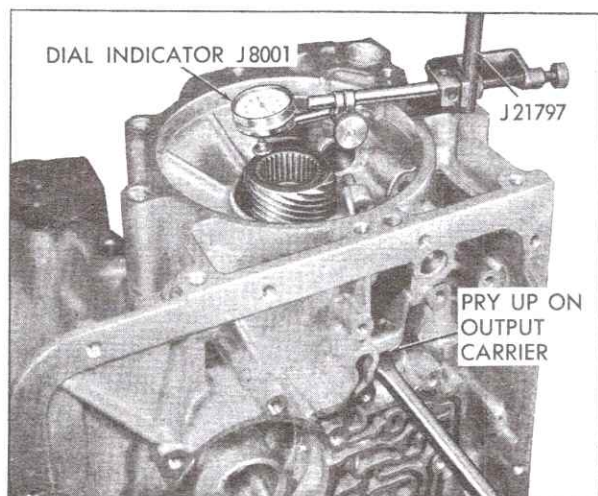

Fig. 7-159 Checking Rear Unit End Play
3. Mount Dial Indicator, J-8001, on Bolt J-21797, and index indicator to register with flat surface on end of output flange, Fig. 7-159.